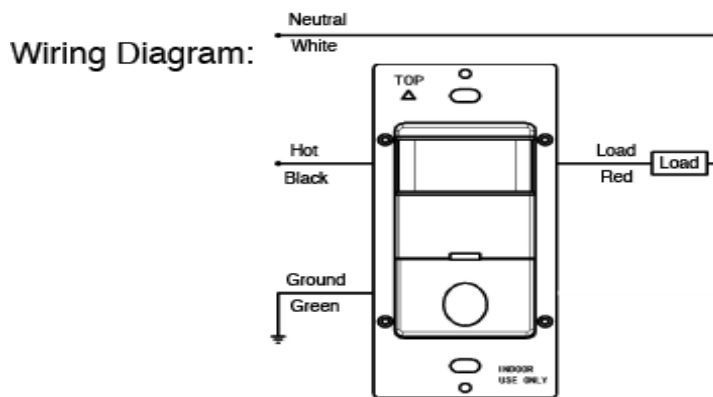

Figure 2
1. Connect lead wires as WIRING DIAGRAM (see Figure 2): Black lead to Line (Hot), Red lead to Load wire, Green lead to Ground.